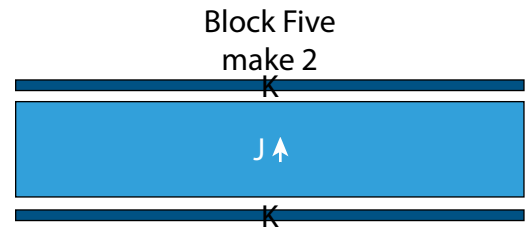

Fig. 13
9. Sew (1) 1 1/2" x 48 1/2" Fabric K strip to the top and to the bottom of (1) 9 1/2" x 48 1/2" Fabric J strip lengthwise to make (1) 11 1/2" x 48 1/2" Block Five strip (Fig. 13). Repeat to make a second Block Five strip.